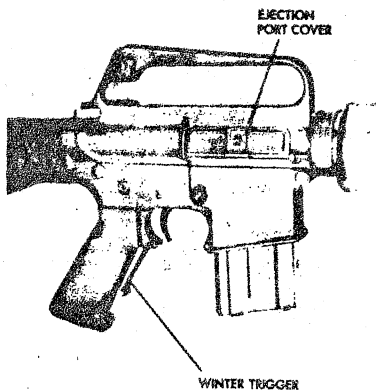

Figure 1-3
- The trigger guard is hinged so that it may be folded back against the pistol grip, as shown in figure 1-3, to allow the weapon to be fired in arctic climates without removing gloves or mittens.